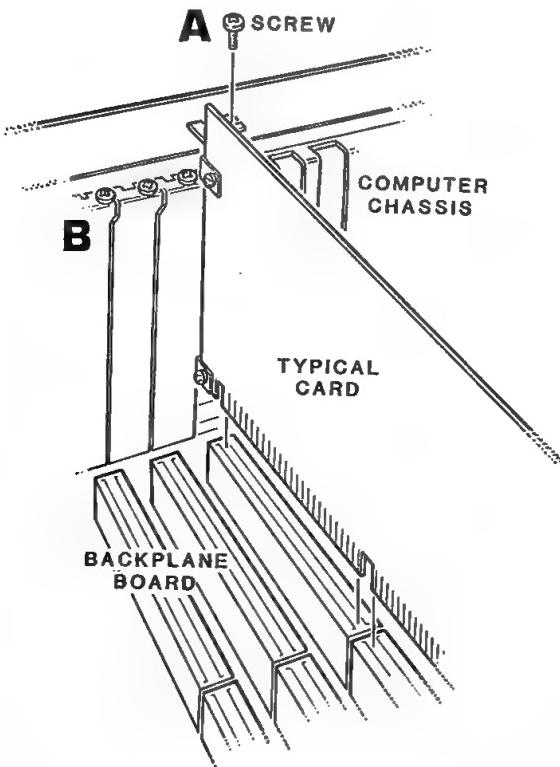

Figure 4-2: Card Support Brackets and Blank Brackets
CAUTION: Switch off the computer and unplug the power cord before you remove any cards. Cards can be damaged if the power is on when they are removed. To replace a card in the computer, follow this procedure (refer to Figure 4-2):
- Remove the screw securing the card to be replaced (labeled A in Figure 4-2).
- To install a card, position the card edge connector directly over the slot on the backplane board and apply gentle downward pressure until the card is firmly seated. Reinstall the screw (labeled A in Figure 4-2) and connect the card to all appropriate internal and external cables.
- To add an optional card, remove the screw from the top of a blank bracket (labeled B in Figure 4-2). Do not discard the screw; you will need it to secure the optional card. Optional cards may be installed in any open slot in the backplane board.